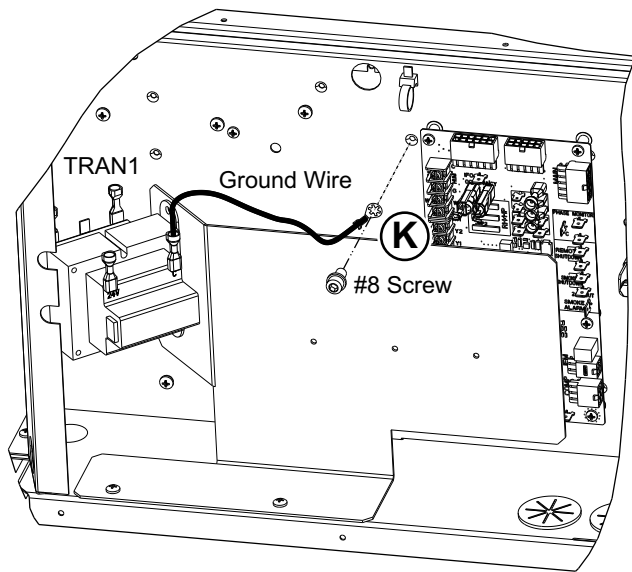

Fig. 17 — Chassis Ground Connection (Chassis 1-4)
6. Use a No. 8 screw and connect main harness connector, labeled GND CHASSIS, to available orifice in the unit. (See Fig. 17 and 18.)